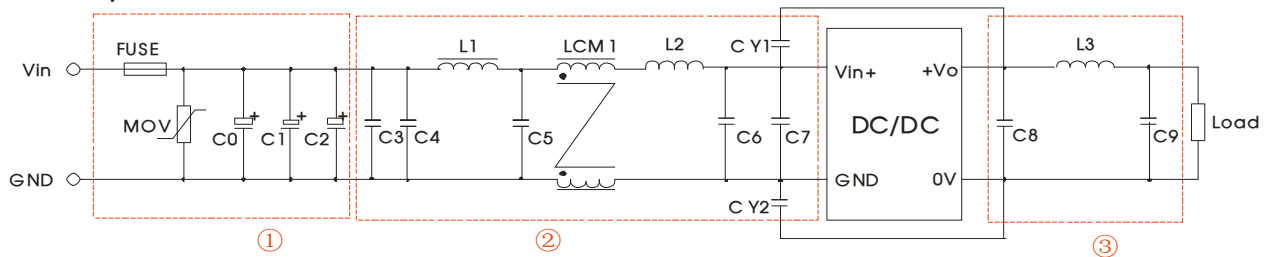

Fig. 3
Note: Part ① in the Fig. 3 is used for EMS test; part ② and part ③ are used for EMI filtering; selected based on needs.